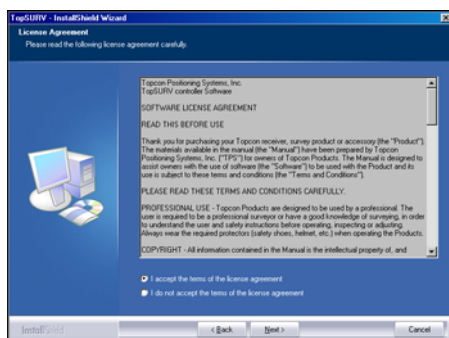

Figure 1-3. License Agreement
7. Review the **License Agreement** (Figure 1-3).